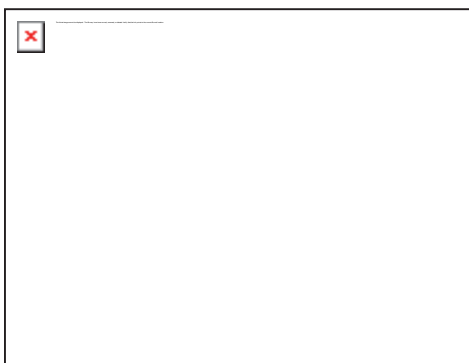

Figure 1. All Segments of the Display
2. Push **⏏** while you keep **LOG** pushed until all of the display segments are shown. See Figure 1.